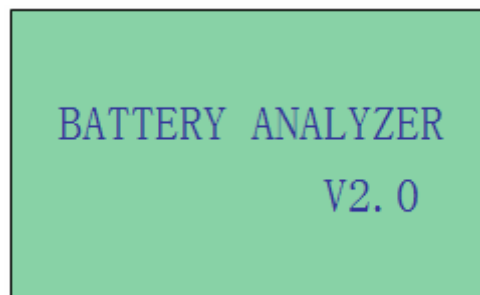

Figure 3
1. Attach the clips onto the battery terminal posts and the battery analyzer will power up and lights up the LCD display screen as shown (Fig.3).